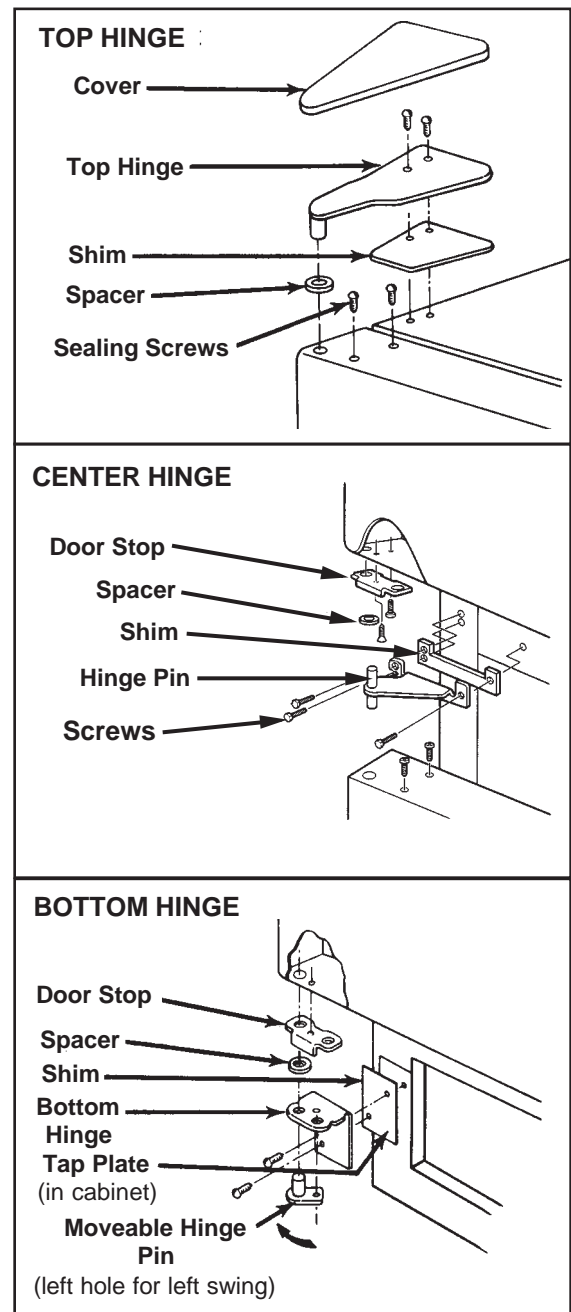

Fig. 41
- b) Loosen the center hinge (Fig. 41) and align the refrigerator door with the cabinet edge.
- b) Loosen the top hinge (Fig. 41) and align the top of the freezer door with the top of the cabinet.